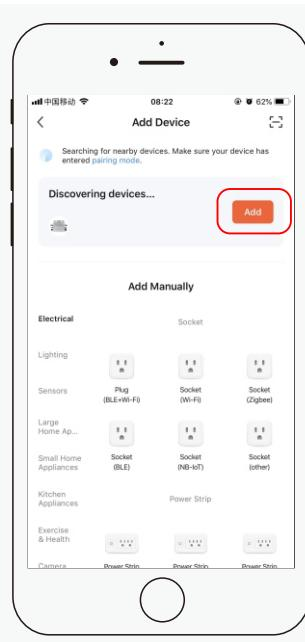

Figure 2
**Step 2.** When the device appears on the search page, click "Add", as shown in Figure 2